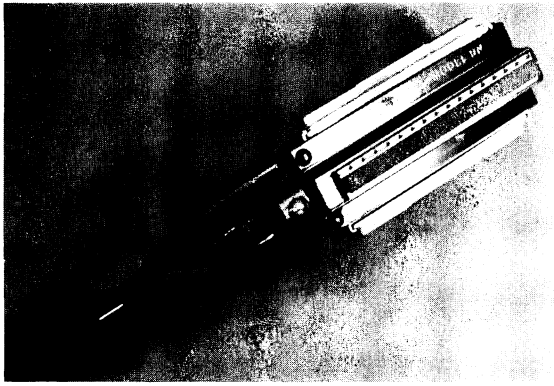

Fig. 9-6 Parallel stone hones
**Types of Hones.** Parallel stone hones such as the Sunnen, Jr. and Midget series are the common types found around a motorcycle shop (Fig. 9-6). Various stones are available to alter the cutting rates and surface finish of the hone job. Generally, "roughing" stones are replaced by "finishing" stones for the final passes. The smoother finishing stones insures a smooth texture for the cylinder walls and minimize wear during break-in.